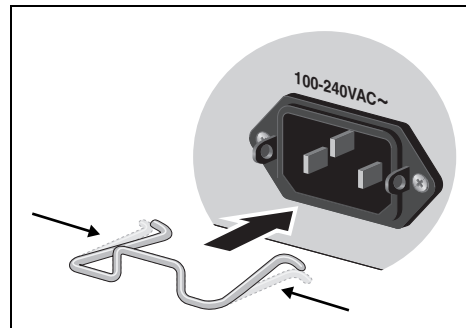

Figure 21. Inserting the Retaining Clip into the Retaining Bracket
2. Install the clip on the AC power connector on the power supply module. With the 'u' of the clip facing down, press the sides of the clip toward the center and insert the short ends into the holes in the retaining bracket, as shown in Figure 21.